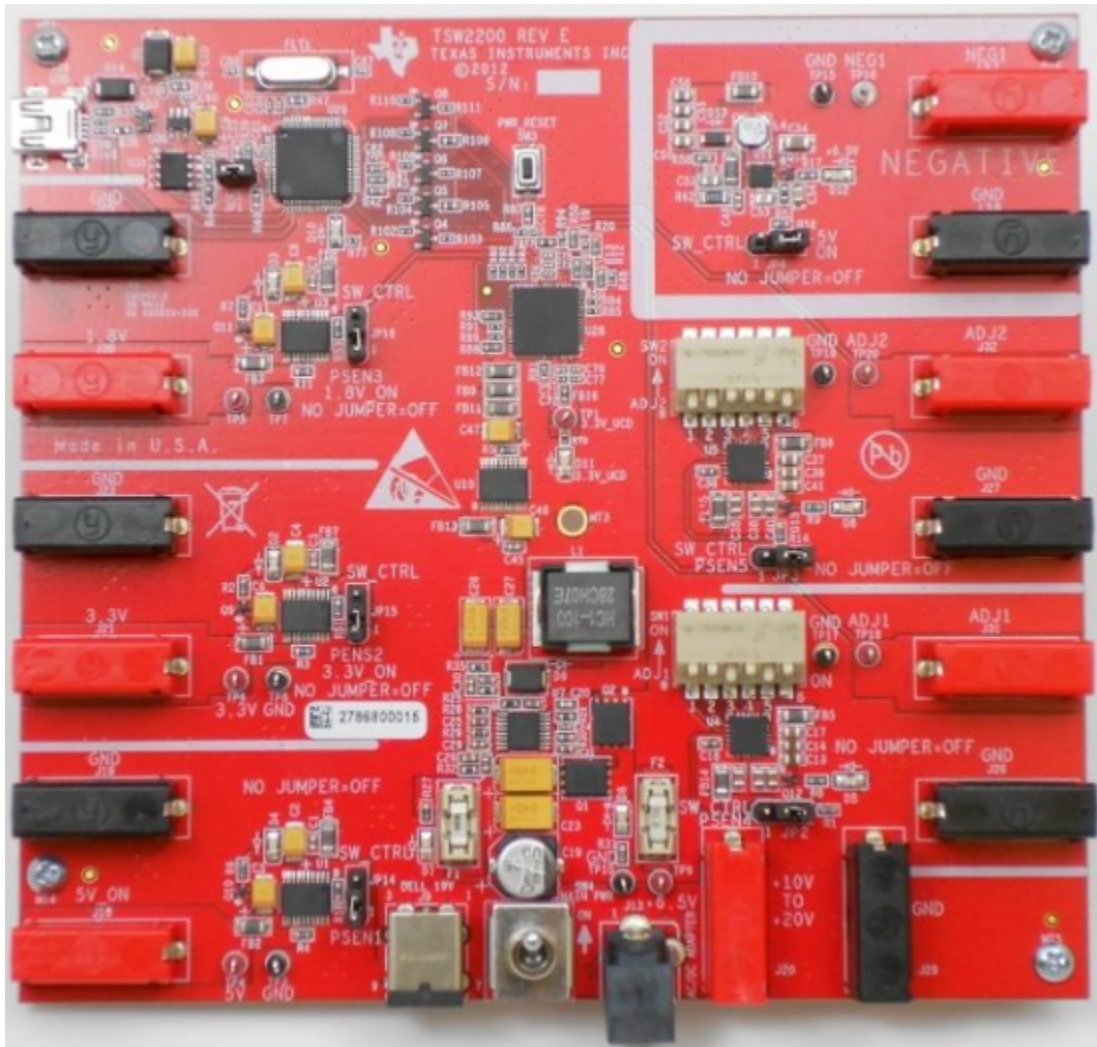

Figure 1. TSW2200EVM Evaluation Module
The TSW2200EVM (Figure 1) provides users with a multiple-output power supply board using a switching regulator and low-dropout (LDO) regulators. With an onboard TUSB3210 integrated circuit (IC) and UCD90120A sequencer, users can configure the EVM to operate in either manual or sequencer mode. Manual operation allows each output to be turned on or off with a jumper setting, whereas the sequencer operation allows precise configurability of turn-on time using the Fusion GUI software.